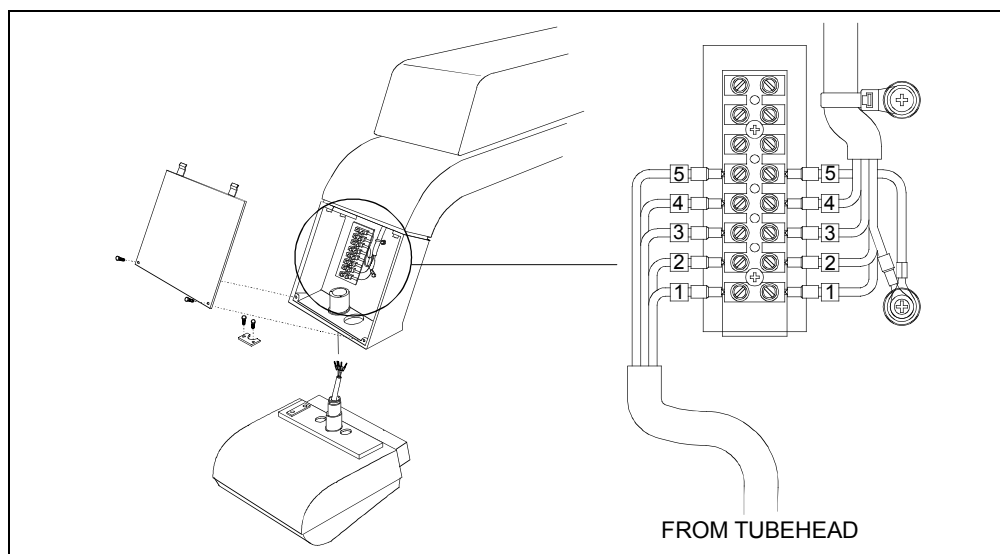

Figure 6-6
13. Assemble the tube head by first inserting the cables and then the pin into the fastening bushing; secure it with the plate previously removed and connect the wires to the terminal strip making reference to Figure 6-6.